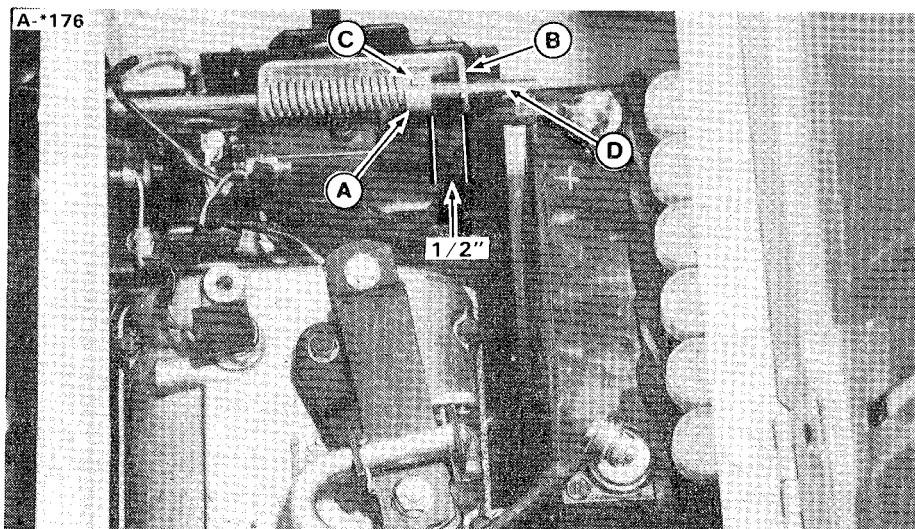

Figure 11. PTO Adjustment. Shown without fuel tank for clarity.
2. Raise the seat deck. Measure the distance between the set collar (A, figure 11) and rod guide (B). The distance should be 1/2 inch (13 mm). If not proceed to step 3.
3. Disengage the PTO. Loosen the set screw (C) and change position of set collar on rod by pulling or pushing on rod. Tighten the setscrew.